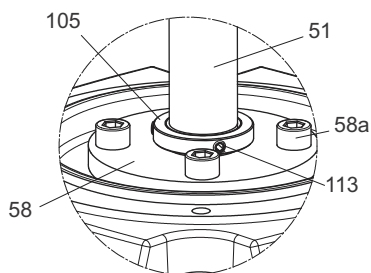

Fig. 8 Loosening the shaft seal
1. Remove screws (pos. 7a) and coupling guards (pos. 7).
2. Remove screws (pos. 9) and coupling (pos. 8).
3. Remove screws (pos. 28).
4. 55-75 kW (Ø32): Remove nuts (pos. 36) and washer (pos. 66a).
6. 11-45 kW (Ø22): Remove screws (pos. 58a) and retainer (pos. 58). See fig. 8.
7. 55-75 kW (Ø32): Remove screws (pos. 58a). See fig. 8.
8. Clean shaft (pos. 51), and loosen the screws (pos. 113) of shaft seal (pos. 105) by 1/2 turn. See fig. 8.